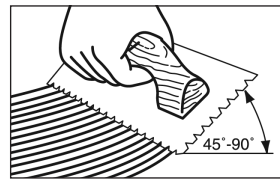

Figure 9
- Open times and curing times of ALL adhesives vary dependent upon subfloor porosity, air movement, humidity and room temperature. Urethane adhesive has a shortened working time in high humidity environments, whereas the working time for ProConnect™ and polymeric resin adhesives will be lengthened. In areas of low humidity, open time will be longer with urethane adhesives and shorter with ProConnect™. Adjust the amount of adhesive spread on the subfloor accordingly. The adhesive should not be applied if subfloor or room temperature is below 60°F (16°C). WORKING TIME WILL VARY DEPENDING ON JOB SITE CONDITIONS. Hold trowel at a minimum 45° angle (Figure 9) firmly against the subfloor to obtain a 40-60 ft.² (4-5.5 m²) per gallon spread rate. The trowel will leave ridges of adhesive and very little adhesive between the ridges. This method will allow you to still see the chalk lines between the ridges and provide the recommended spread rate.